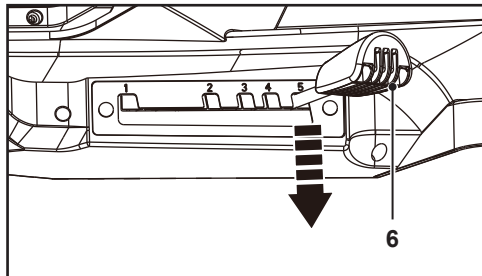

Fig. 10
1. Pull the lever (6) outwards (Fig. 10).